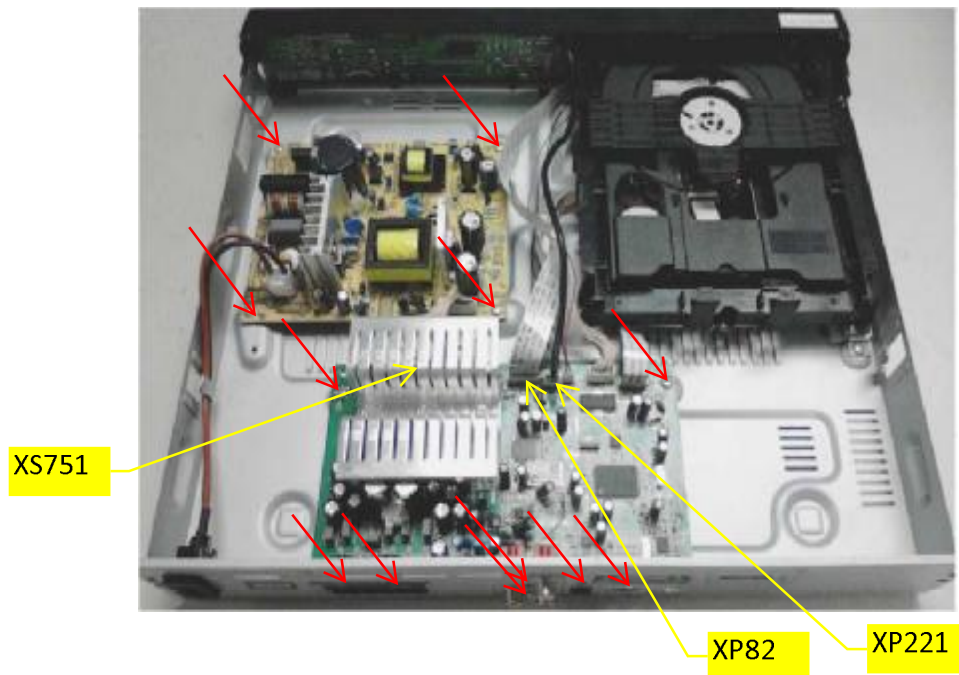

Figure 3
Step3: Dismantle the main board. Disconnect connectors(XP221,XP82,XS751),remove 2 screws on the board and 6 screws on back panel.(Figure 3)
Step4: Dismantle the power board.Remove 4 screws on the board.(Figure 3)